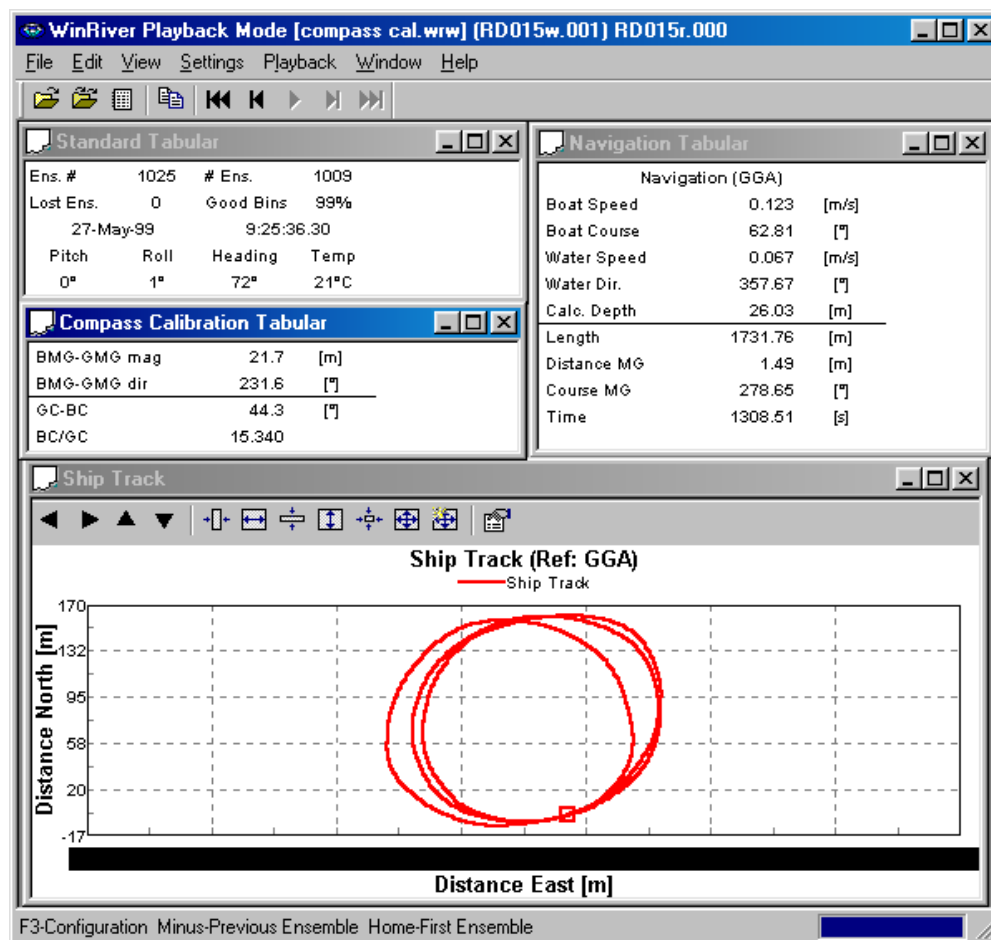

Figure 29. Method 2 Compass Correction Procedure
If you don't have a marker available that allows you to return to the same location (within 30 cm), you can still determine the one-cycle correction factors. For this procedure, *GPS is used as the reference* rather than the dock or stationary marker used in Method 1. The magnitude of the non-closure error is estimated by the magnitude of the **BMG-GMG** vector, and the **BMG-GMG** angle is the course made good direction. The ratio between distance made good and the length of the track (**BMG-GMG** and **Length**, respectively on the *WinRiver* display in Figure 29, page 76) is the magnitude of the one-cycle compass error and the one-cycle offset is the **BMG-GMG** angle.
- f. Drive in a circular course with a circumference of about 1000 meters or larger (as large as possible). It is important to make a large circular track to make a good estimate of the one-cycle compass correction factors, and it is also important to make the path as close to a true circle as possible. Use the **Ship Track** screen to help make the circular course at a slow steady speed. If your location does not allow you to run a large circular course, you can run several continuous circles (say 3 to 10) being sure to pass as close as possible to your original starting point as you complete each circle. You would then use the combined course length from all of the circles in determining the one-cycle errors as described in the following steps. In Figure 29, page 76, three circular tracks were made to provide a total track length of 1731.76 m.
- h. Record the **BMG-GMG** vectors (magnitude and direction) and **Length** values. For example, in Figure 29, page 76, the **BMG-GMG Direction** is 231.6°, the **BMG-GMG Magnitude** is 21.7 m, and the **Length** is 1731.76 m.
- i. Take the ratio between **BMG-GMG Magnitude** and **Length**; this is the magnitude of the One-Cycle Error (**One Cycle K**). In our example as shown in Figure 29, page 76, you would determine the ratio as $21.7/1731.76 = 0.0125$. The **BMG-GMG Direction** 231.6° is the One-Cycle Error Offset (**One Cycle Offset**).